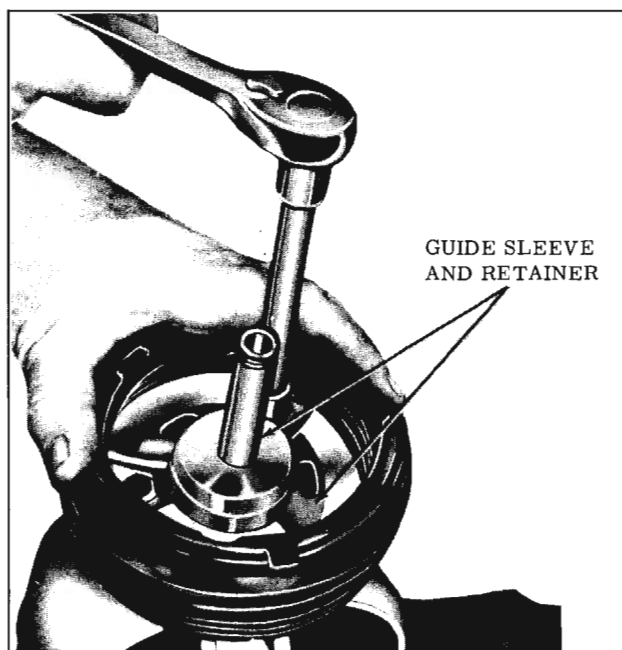

Fig. 7-125 Retainer and Sleeve Removal
9. Remove retainer and sleeve assembly from bellows. (Fig. 7-125)